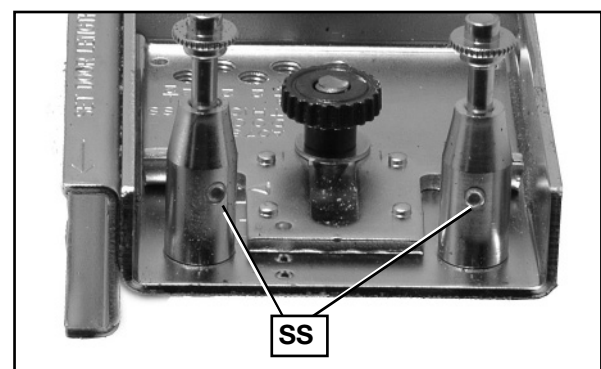

Fig. 16
If a template nail needs to be replaced, use the provided hex key to loosen set screw (SS) Fig. 16 at base of nail housing. When replacing the nail, do not tighten the set screw down completely. Replacement nails are available as a service part through Porter-Cable.